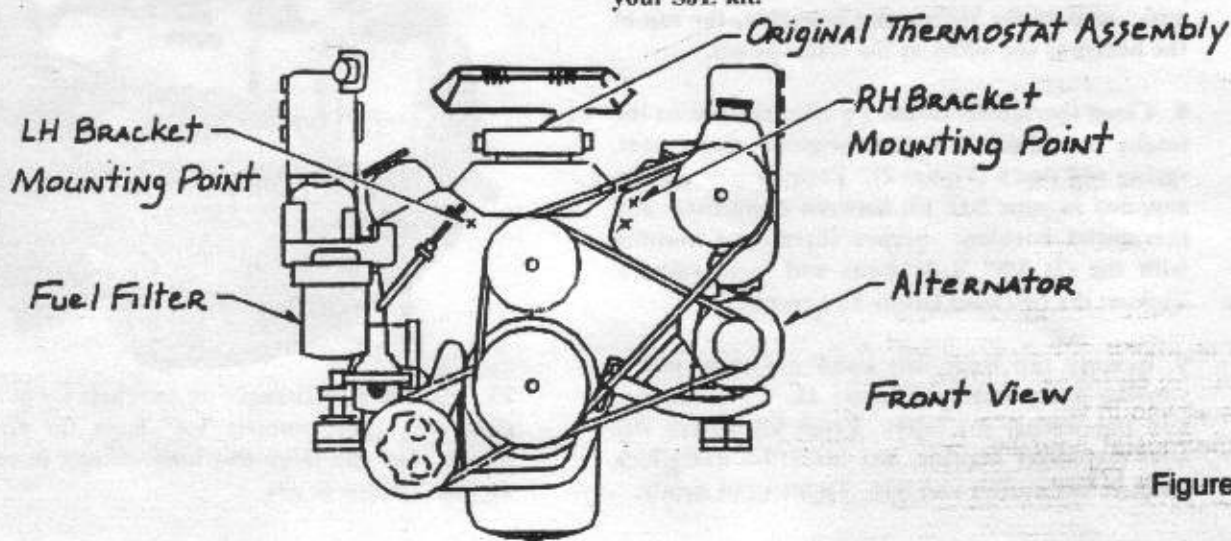
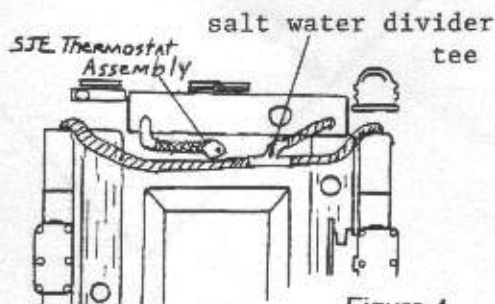

Figure 1
Figure 4
3. Locate original thermostat housing assembly at top, front, center of engine (Figure 1). Disconnect wire connected to the high water temperature alarm sending unit and the wire connected to the water temperature sending unit. Be sure wires are re-connected to the same sending units.
5. Remove thermostat housing assembly from engine by taking out the (2) 9/16" head bolts at back end of housing. Carefully remove plastic retainer and thermostat, high water temperature alarm sender and water temperature sender from housing. These will be used later. Discard original thermostat housing, lifting strap and bolts. You will replace these with new parts from your SJE kit.
7. Remove the 1/2" pipe plug from the intake manifold. This is located slightly in front and to the left of the thermostat, next to left valve cover. (Figure 4). Thread (1) 1/2" pipe to 5/8" hose straight fitting into the hole. Remove the 1/2" pipe plug located on the left hand side of the fresh water pump, just above the large 1-3/4" suction hose. Thread (1) 1/2" pipe to 5/8" hose straight fitting into this hole. Tighten both fittings snugly. Using the 20" piece of 5/8" hose and (2) #8 hose clamps, plumb these two fittings together. For the cleanest installation, this hose length should be trimmed to suit. This is your fresh water by-pass and can also be used for a heater. For a heater plumb the bottom of the heater to the by-pass outlet next to the thermostat assembly, the top of the heater to the outlet at the water pump.
9. Remove top front, left hand nut from power steering pump bracket (Figure 1). Save this nut and flat washer for later. From kit, install RH heat exchanger bracket, RH MC319-4 using lock washer, flat washer and nut. Tighten nut firmly.
10. Install LH heat exchanger bracket, marked LH MC319-5. Tighten bracket bolt firmly. Due to (2) different idler brackets, you can use either 1-1/4" bolt or 1-1/2" bolt with 3 washers. Bend dip stick to right or outside belt.
11. Connect all hoses as in Figure 4, 5, and 6.
12. Using the 90 degree 1-1/2" hose elbow and (2) #24 hose clamps provided in your kit, connect the thermostat assembly to the heat exchanger. Slip the hose clamps loosely over the hose first, then slide the hose on to the thermostat assembly. The other end of the hose is connected to the 1-1/2" hose barb on the back, right hand side of the heat exchanger. This can be attached as you slowly set the heat exchanger tank down into its brackets.